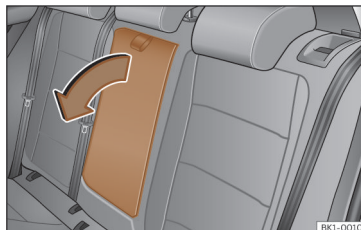

Fig. 92 Folding rear centre armrest (schematic view).
- To lower the armrest, pull the cord in the direction of the arrow >>> **Fig. 92**.